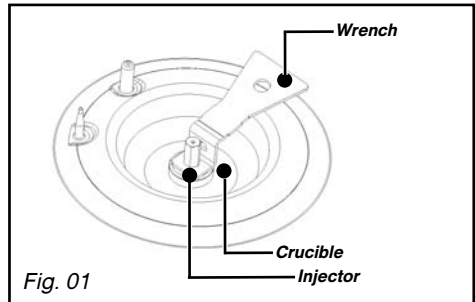

Fig. 01
– **Connection with a wavy metal hose** (stainless steel) **with screw-on mechanical** connectors (compliant with the NF D 36-125 standard) whose service life is unlimited (Fig. 01).
- Using the wrench provided, unscrew the injectors located under each crucible and remove them (Fig. 01).